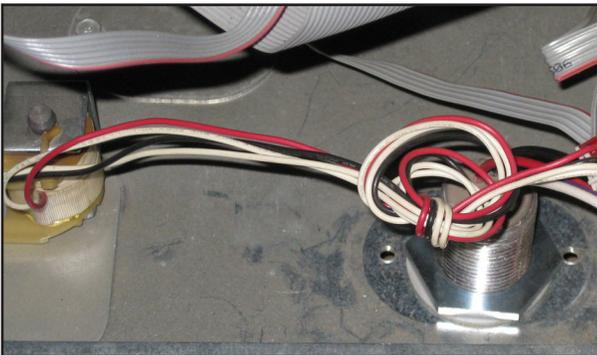

Figure 9: Potted Nipple Installed
- Pull wires and then nipple assembly up into electronics enclosure. Fit washer and nut over wires and tighten nut securely in place, as shown in Figure 9.